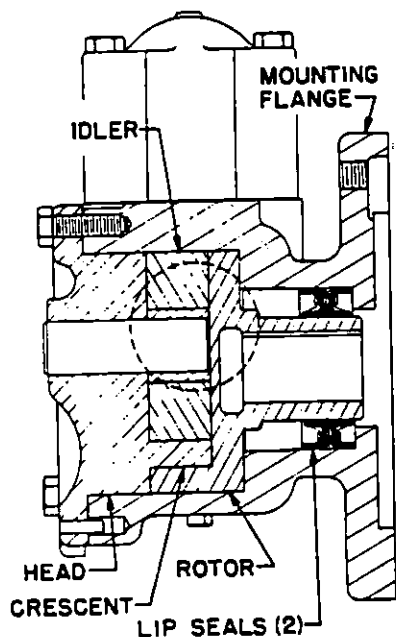

FIGURE 8
To Reassemble Model H75, HJ75 or HL75 Lip Seal Pumps: (see Figure 8)
6. **THE HEAD CAN NOW BE ASSEMBLED ON THE PUMP.** Tilt the top of the head away from the pump slightly until the crescent enters the inside diameter of the rotor and rotate the idler until its teeth mesh with the rotor teeth. Do not damage the head gaskets. Note correct position of idler and crescent. (See Figure 8 and Disassembly Step 2). Tighten the head capscrews and then check the end clearance.